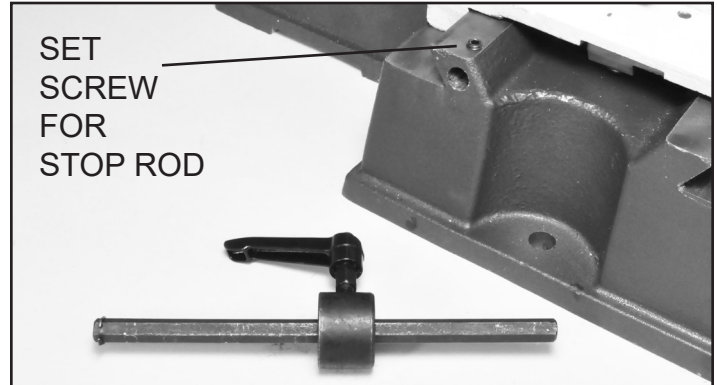

FIG. 5
1. Slide an adjustable Stop Collar Assembly (#74, 75) onto each of the Stop Rods (#76), and lightly tighten them in place so that they do not move. FIG. 5.